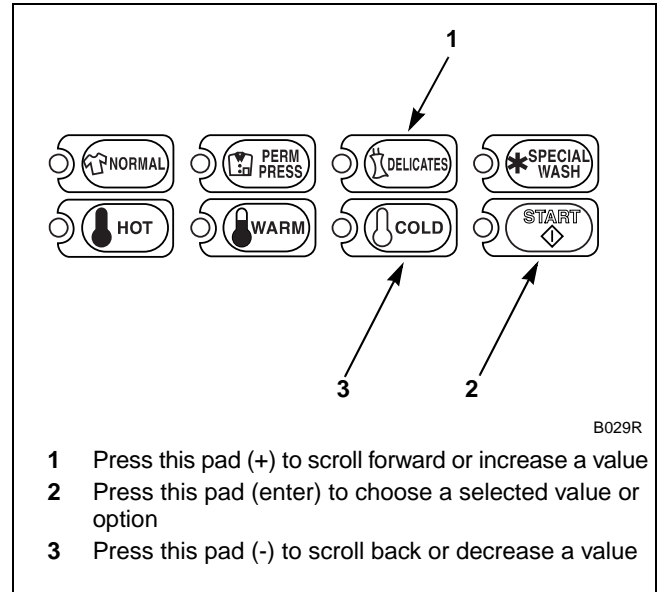

Figure 176
5. Press the DELICATES (+) or the COLD (-) keypad to increase or decrease the current output value displayed in the VFD to the desired output value. Refer to *Figure 176*.